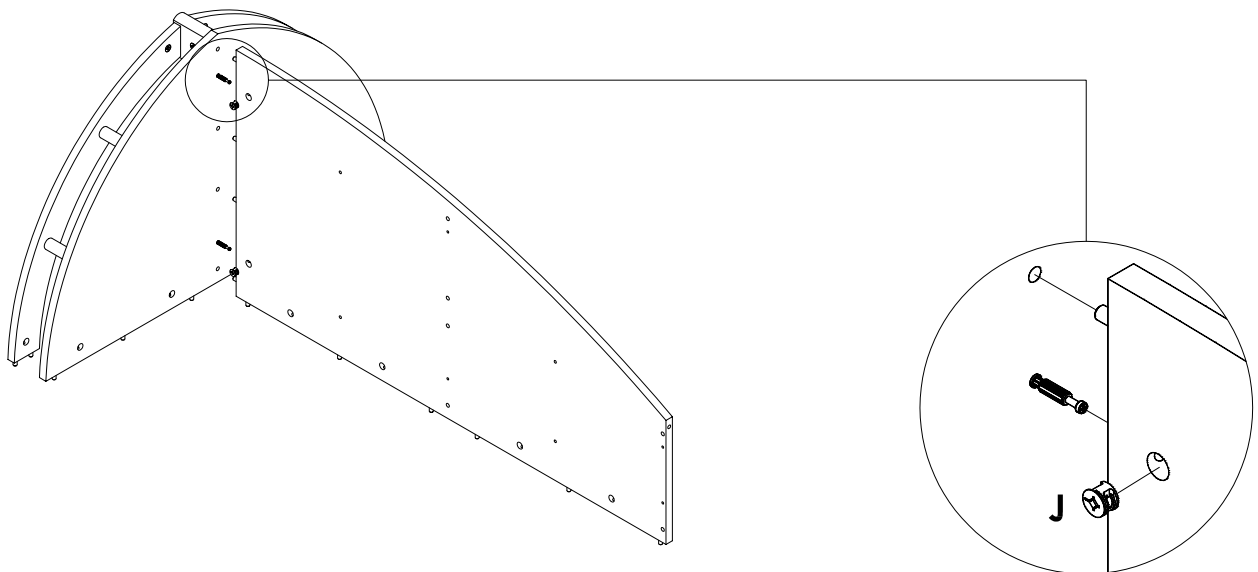

Figure 7
1. Connect both **Center Panel** and **Top Panel** together by using **Minifix (J)** as shown in **Figure 7**, tighten it up by using a Crosshead Screw Driver.